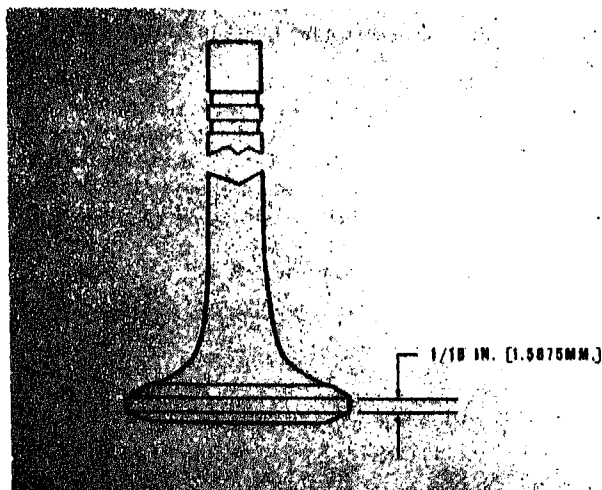

Fig. 2-5-1. Minimum valve head rim thickness
1. Heads are cupped, cracked, pitted or worn too thin to grind within limits. Check valve head rim thickness (A, Fig. 2-5-1); it should be a minimum of $\frac{1}{16}$ in. [1.5875 mm].
Check rim thickness as shown in Fig. 2-5-1. If rim is less than $\frac{1}{16}$ in. [1.5875 mm], valve is not suitable for use because of danger of burning and cupping.